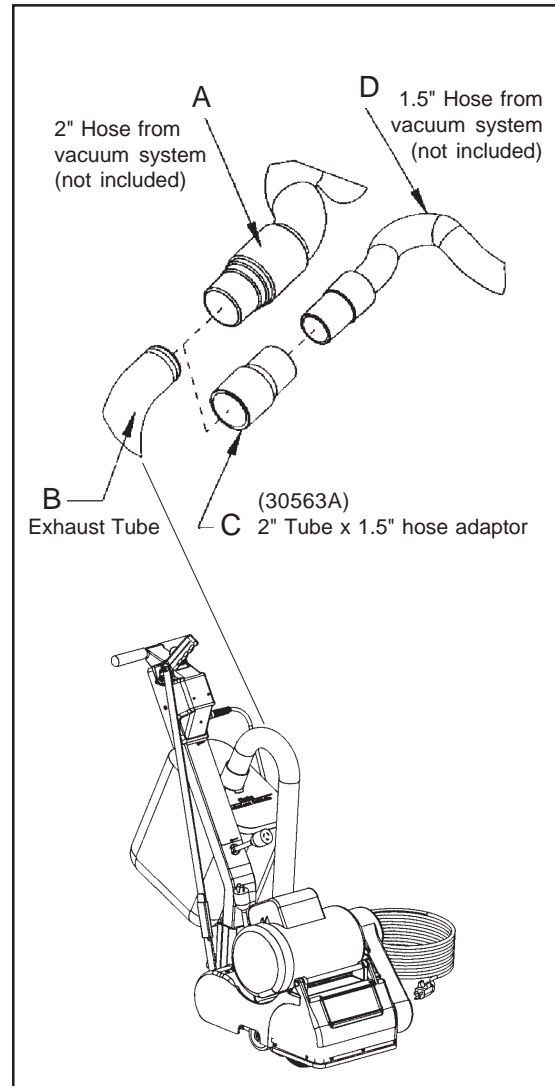

Figure 9
1. Install 2" hose end (figure 9, A) directly over the exhaust tube (figure 9, B).
1. Install the 2" x 1½" hose end adaptor (Part No. 30563A) (figure 9, C) over the exhaust tube (figure 9, B).
2. Insert 1 ½" hose end (figure 9, D) into the adaptor (figure 9, C).